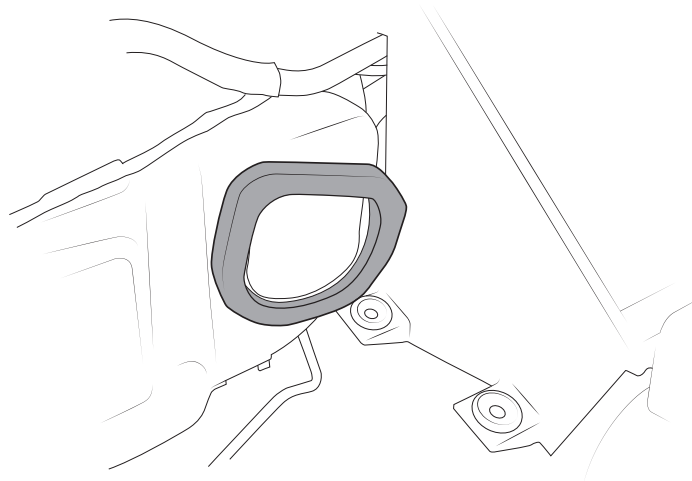

Figure 22
8. Clean the surface and install the AEV supplied seal onto the inner fender (Fig 22).